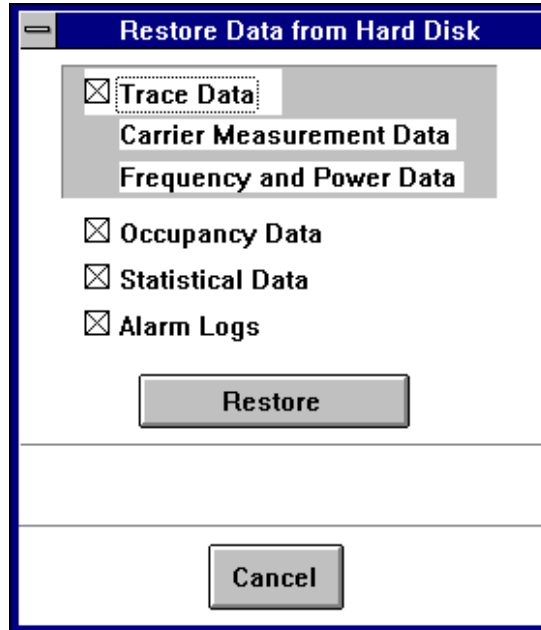

Figure 10-5: The Restore Data from Hard Disk Dialog Box
1. Click **Data** on the File Utilities window menu bar and then select **Restore Data from Hard Disk** from the dropdown menu to open the **Restore Data from Hard Disk** Dialog Box (Figure 10-5).